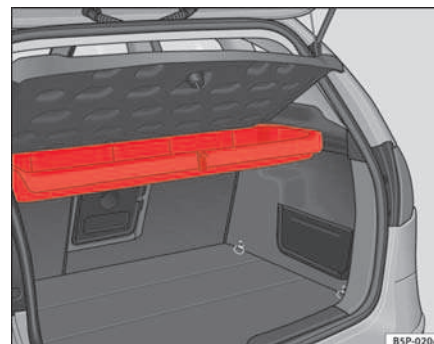
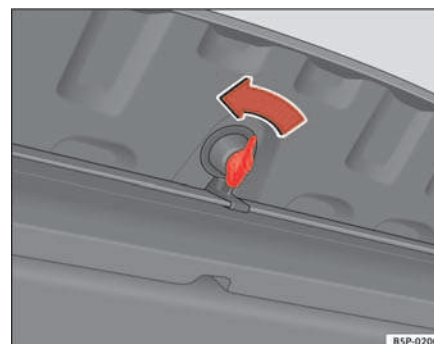

Fig. 117 Warning triangle storage under the rear cover
Fig. 118 Opening the storage compartment
The warning triangle* is located in a stowage box under the luggage compartment cover ⇒ page 143, fig. 117. To open this storage compartment, turn the knob 90° fig ⇒ page 143, fig. 118.
- Open the storage compartment by turning the knob 90° ⇒ **page 143, fig. 118.**